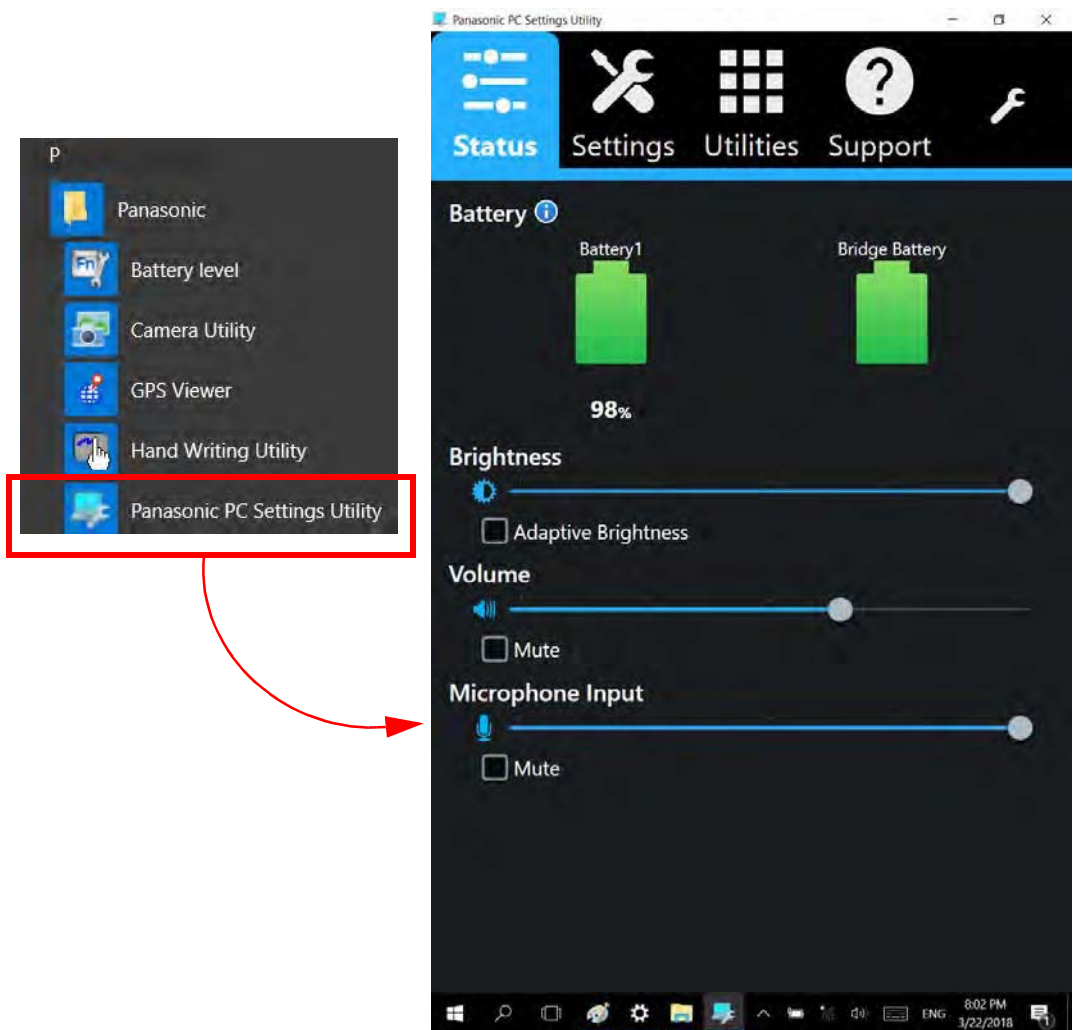

Figure 11-1: Dashboard (Panasonic PC Settings Utility) Typical Page.
2. To open the **Panasonic PC Settings Utility** (Figure 11-1) (shortcut: press the “A” button  on the side of the tablet):